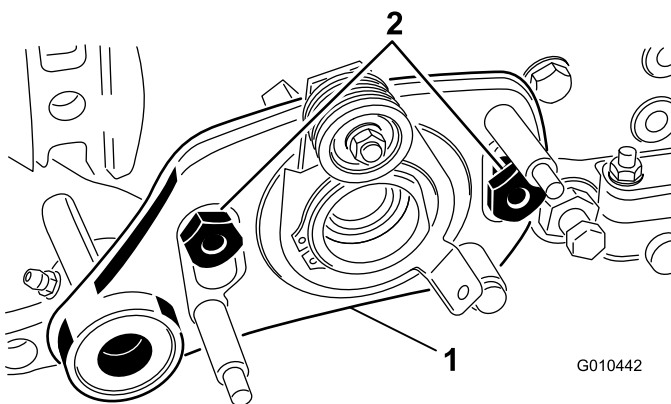

Figure 6
9. Insert the left drive assembly onto the bolts and secure with 2 shoulder nuts (Figure 6).